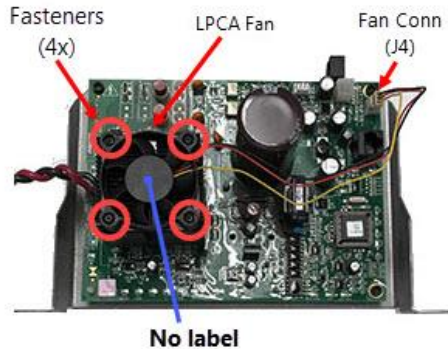
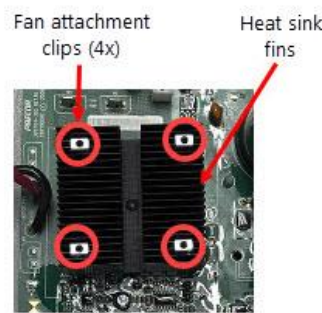

Fig. 2
Fig. 3
Tip: It is highly recommended to remove the LPCA from the treadmill and do the fan replacement on a flat surface using an ESD strap. The small fan heat sink mounting clips can easily fall off and possibly be lost during the fan removal (Fig. 3).
- a Disconnect the fan power cable (Fig. 2).
- b Remove the four #1 Phillips fan mounting screws (Fig. 2). Carefully hold the fan while removing the screws so that the fan heat sink mounting clips are not moved or fall off during removal.
- a Carefully clean the heat sink and remove any dirt or debris from between the heat sink fins. Be careful to not disturb the four fan mounting clips (4x) while cleaning (Fig. 3). They can easily fall off and be lost.
- b Carefully position the fan onto the heat sink mounting clips with the fan mfg. label facing down against the heat sink (Fig. 2). Adjust the clips so that the four fan bracket mounting holes are aligned with the clip bolt threads (Fig. 3).
- c Secure the fan using the four #1 Phillips screws (Fig. 2). Do not fully tighten until all four screws are installed. Fully tighten all four screws (do not overtighten screws).
- d Reconnect the fan power cable (Fig. 2).
8 Switch the power ON, start a workout and verify fan operation. Make sure the fan is blowing air into and thru the heat sink fins (no fan mfg. label) (Fig. 2).